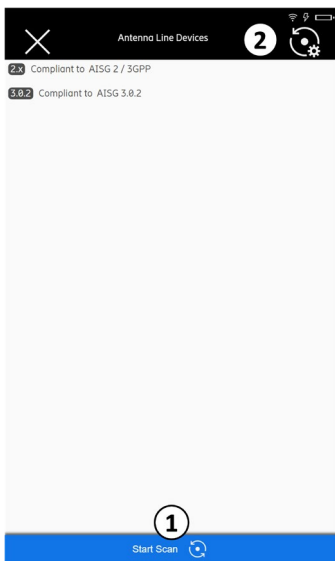

Fig. 46: Devices: Initial screen
- ① Exports the selected file/files onto a USB stick
- ② Deletes the selected file/files
11. To export the selected log files, tap Export Log. (① in Fig. 46). The folders on the connected USB stick are shown.
13. To delete the selected log files, tap Delete (② in Fig. 46).
2. Tap Scan (① in Fig. 46) to start scanning for ALDs.